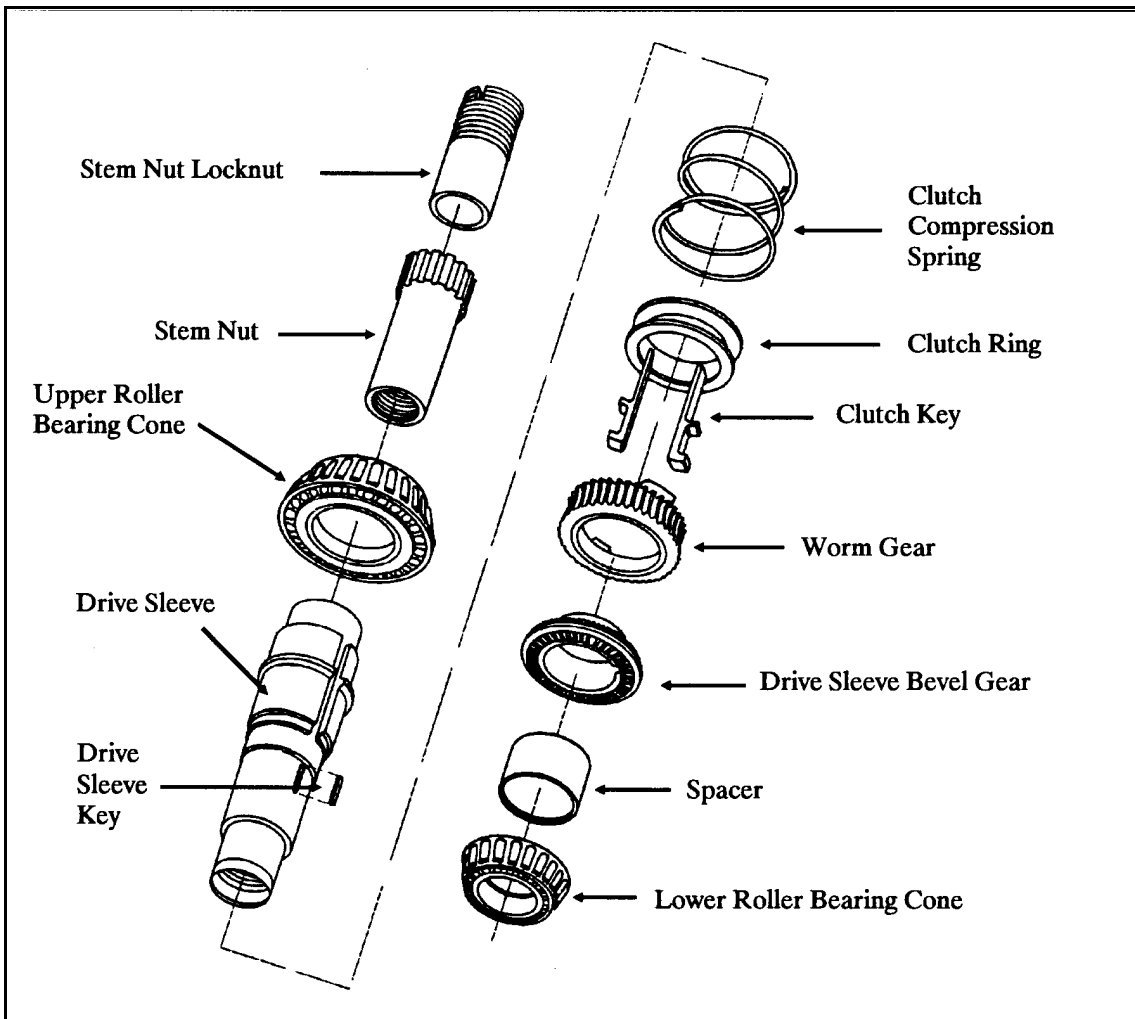

Figure 4-33 Drive Sleeve Assembly Exploded View
15. Drive Sleeve Reassembly Refer to Figure 4-33